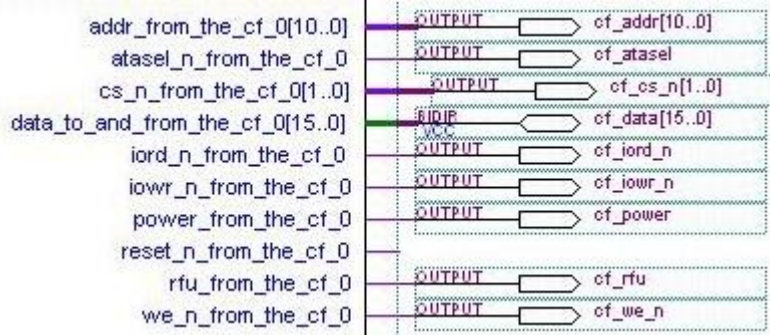

Figure 5: CF Input, Output and Bidir Ports To Remove
6. For all of the modules shown in Figure 5, you need to add the related input ports and output ports for the CF (CompactFlash) module.